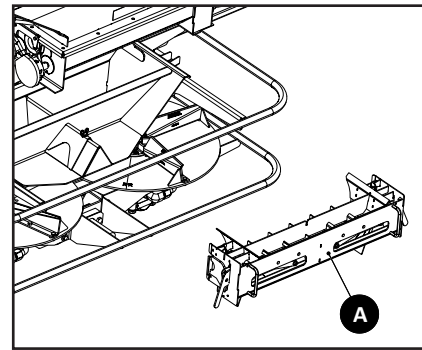

Figure 3
3. Figure 3 - Remove Vane Assembly (A) by pulling lynch pins and lowering latches on each side. Remove from spreader and set aside.